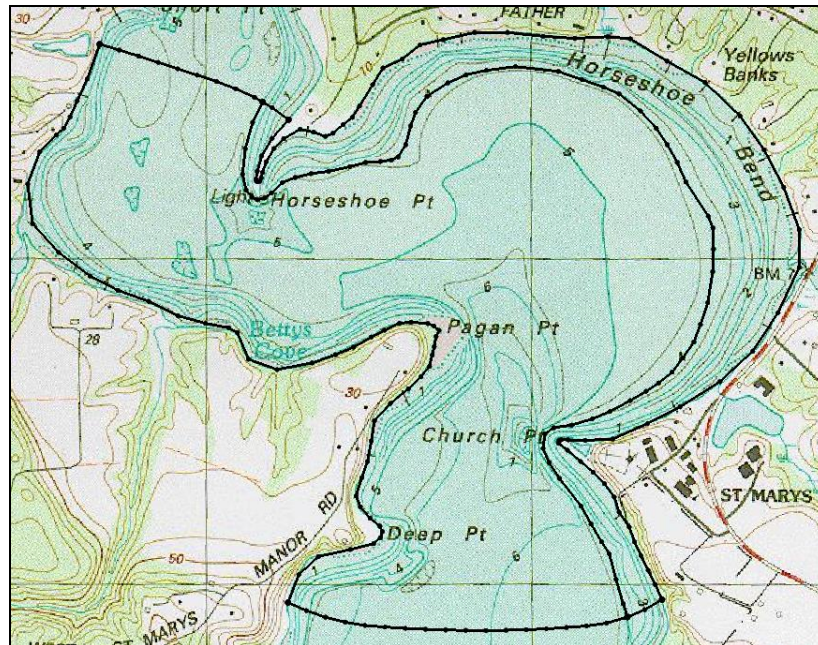

Figure 6 Arc along the left bank
1. Using the **Create Feature Arc**  tool, click out an arc that starts at the intersection of the upstream arc and the 4 meter contour and follows the 4 meter contour along the left bank as seen in Figure 6.
2. Terminate the arc by clicking on the downstream arc. (See Figure 6.)